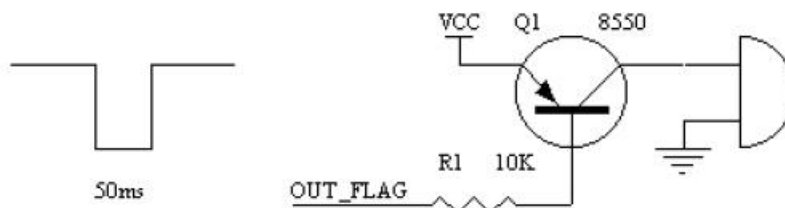

Figure 2: The signal driving buzzer of OUT\_FLAG
When the effective touch on the sense element occurred is detected, the foot of OUT\_ FLAG of WTC6312BSI(W) within 150ms will output the level signal of 50ms. The customer can use this signal to realize the key awakening function, and at the same time, can externally connect a triode to drive a DC buzzer to realize the voice indication of the touch key . As shown in figure 2.